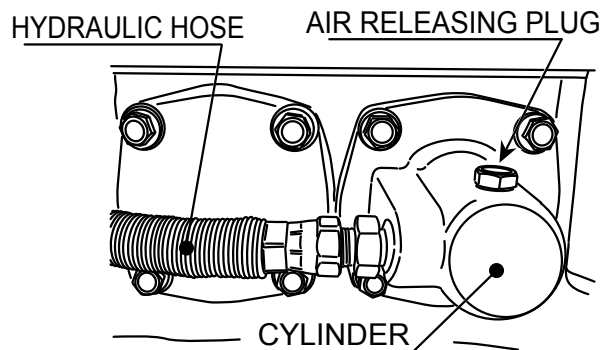

Figure 29. Removing Hydraulic Hose
3. Remove the hydraulic hose connected to the cylinder on the vibrator side (Figure 29).
7. Remove the air releasing plug of vibrator cylinder. Oil will then come out from the air releasing plug. After air bubbles stop coming out, reattach the plug. Tighten securely (Figure 29).